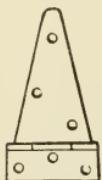

FIG. 83.—HINGE FOR FARMER'S LEVEL.
6. Locating and boring screw holes for hinges. — The hinges should be of the pattern indicated in Fig. 83. The strap leaf should extend along the leg, and the other leaf should be fastened to the tripod head. It is better not to fasten the hinges to the legs until the screw holes have been bored in the tripod head.